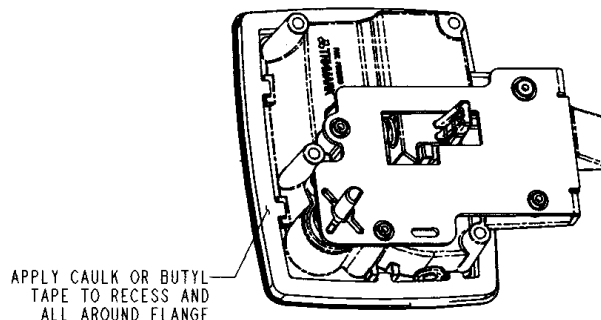

Fig. 5
B. Caulk or butyl tape. Apply caulk or butyl tape to the underside of the flange all the way around (Fig. 5). A recess is provided around three edges of the flange and partially on the other edge of the flange for caulk or butyl tape to be put in.